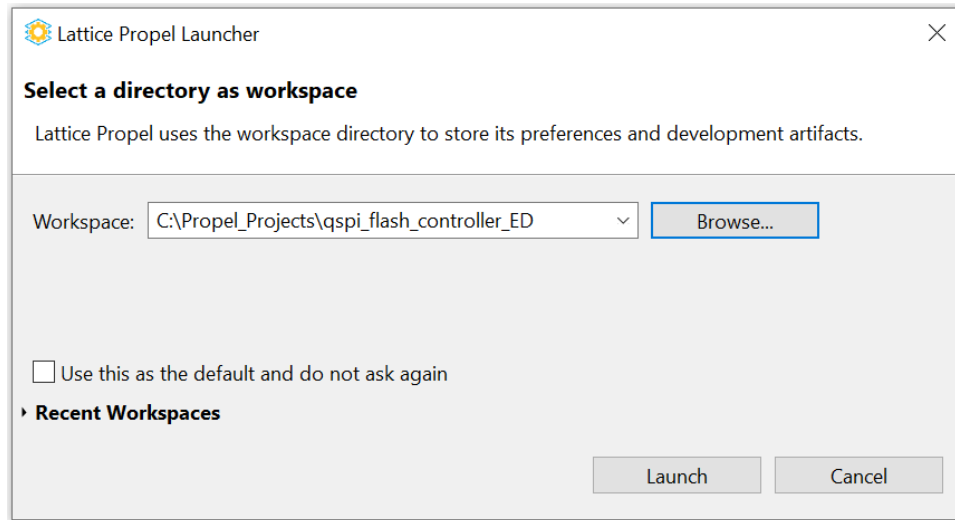

Figure 6.3. Lattice Propel Launcher
1. Launch Propel SDK. The **Lattice Propel Launcher** opens as shown on Figure 6.3. Browse to a directory for the **Workspace** field and click **Launch**.